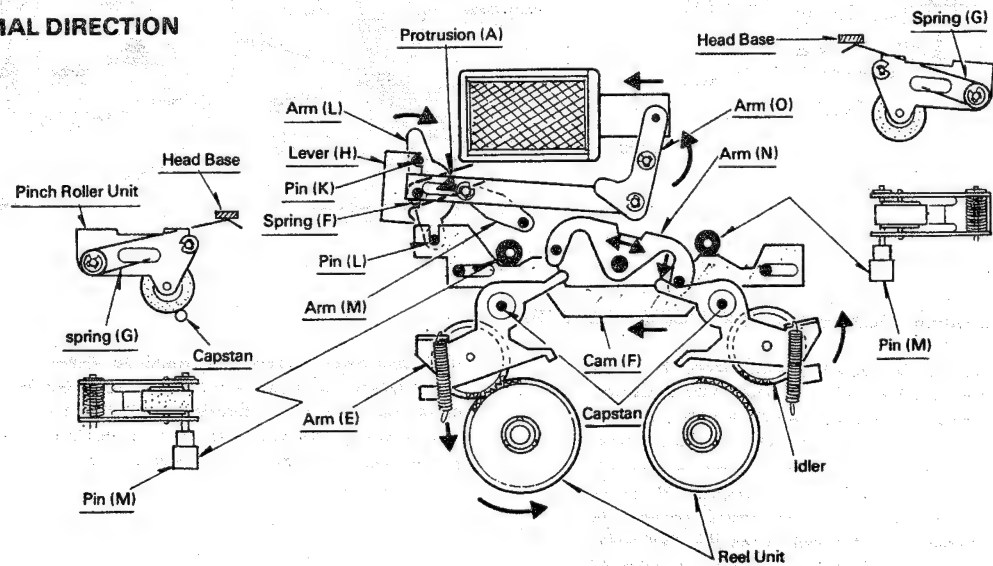

Fig. 16
• Auto Reverse mechanism (Fig. 16 and 17)
1. When the sensing mechanism is activated with the Head Base advanced, the pin at the end of the main solenoid causes Arm (O) to rotate so that Lever (H) is attracted.
2. Lever (H) engages either Pin (K) or (L), attached to Arm (L), to cause Arm (L) to rotate. Pin (L) engages the groove of Cam (F), so that Cam (F) moves right and left to rotate Arm (N) and cause the Arm (E) to move vertically, and stop the rotation on either side of the Reel Units.
3. Cam (F) contacts Pin (M), which is attached to the Pinch Roller Unit. Pin (M), through the pressure of Spring (G), with the claw protruding toward the Head Base as its stopper, is provided with constant downward force.
4. Pin (M), via Cam (F), moves vertically to control the contact of the Capstan on one side with the Pinch Roller.
5. Spring (F), mounted to the rotating shaft of Arm (L), rotates in the same direction as Arm (L) to store sufficient force to move Arm (M).
6. Said force, when Lever (H) rotates Arm (L) and is returned to its normal position (when the Lever (H) engages neither Pin (L) or (K), affects the oval hole on Lever (H) to incline the Lever (H) toward the opposite side.